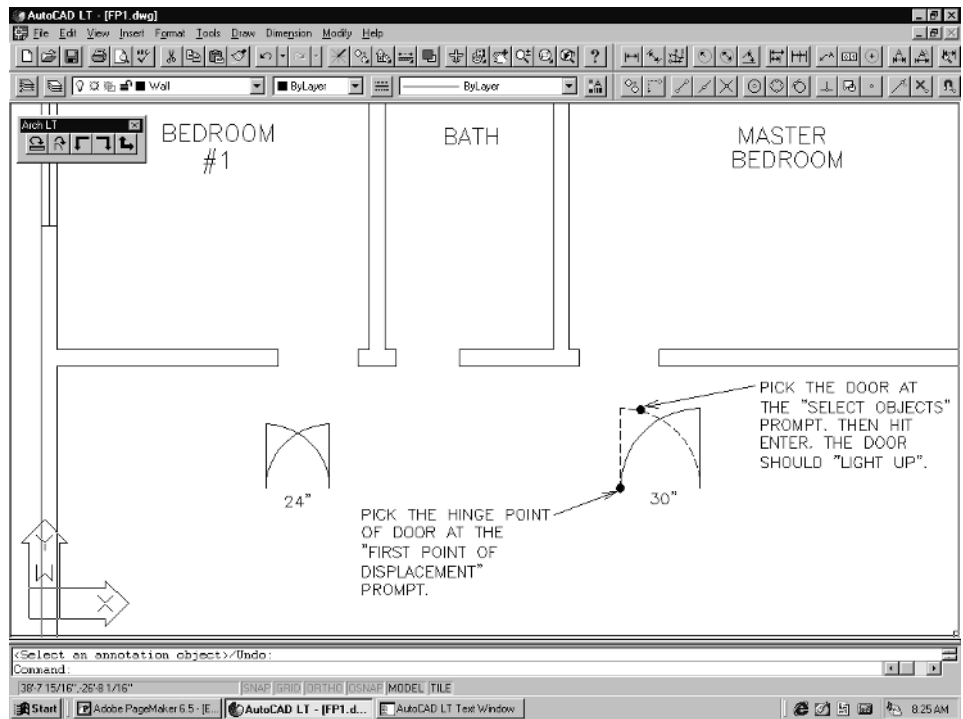

Figure 2-45
1. Pick the **Copy** command from the Modify pull-down menu. The prompt *Select objects* will appear. Pick the door you wish to use, then hit **Enter**. At the *<Base point or displacement>/Multiple* prompt, pick the hinge point of the door, as shown in Figure 2-45.